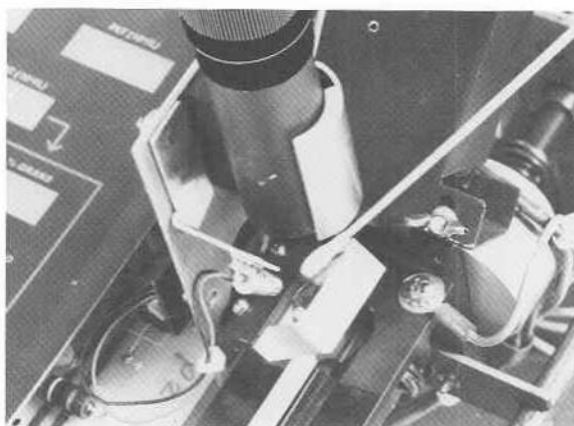

Figure 5.13. Cleaning Beam Splitter Block with Swab.
- 2) Loosen and slide up the microscope according to procedures in 5.3.2c in order to gain access to the Beam Splitter Block (Figure 5.13).